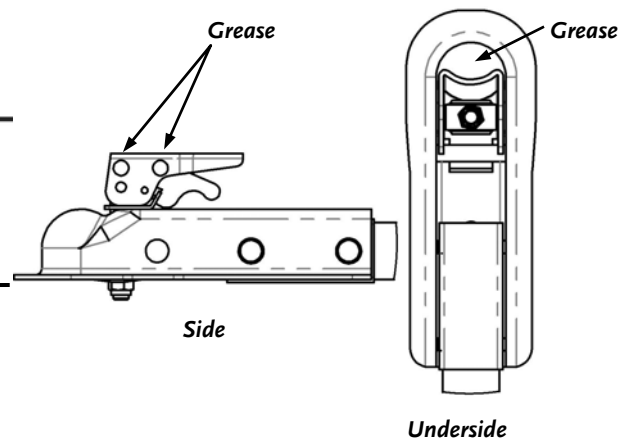

Figure 29
4. Apply the grease to the Pivot Pins of the Latch on the Coupler and to the underside of the Coupler (**Figure 29**).